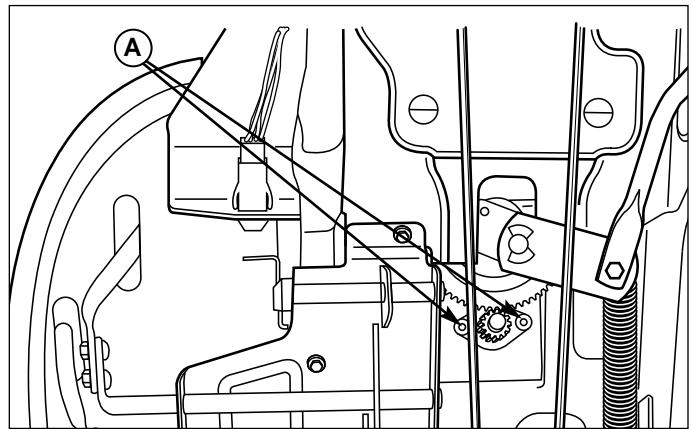

Figure 32. Steering Gear Adjustment
1. See Figure 32. Locate the steering gear assembly on the underside of the tractor. Loosen the two nuts and adjust the bracket so the gear teeth are closely meshed.
2. Tighten nuts (A, Figure 32) to 36-44 ft. lbs. (49-59 Nm) after adjustment.